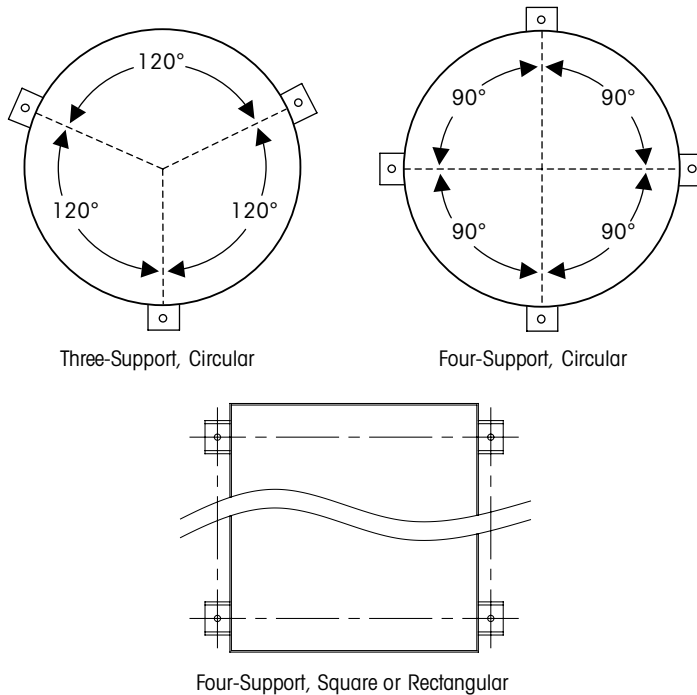

Figure 7-2: Plan View of Recommended Weigh Module Arrangements
1. Position the tension weigh modules around the tank so that each will support an equal portion of the tank's weight approximately (see Figure 7-2). Make sure that the support brackets overhead on the structure and those on the scale are aligned properly; better still, make some adjustable for fine tuning during installation.